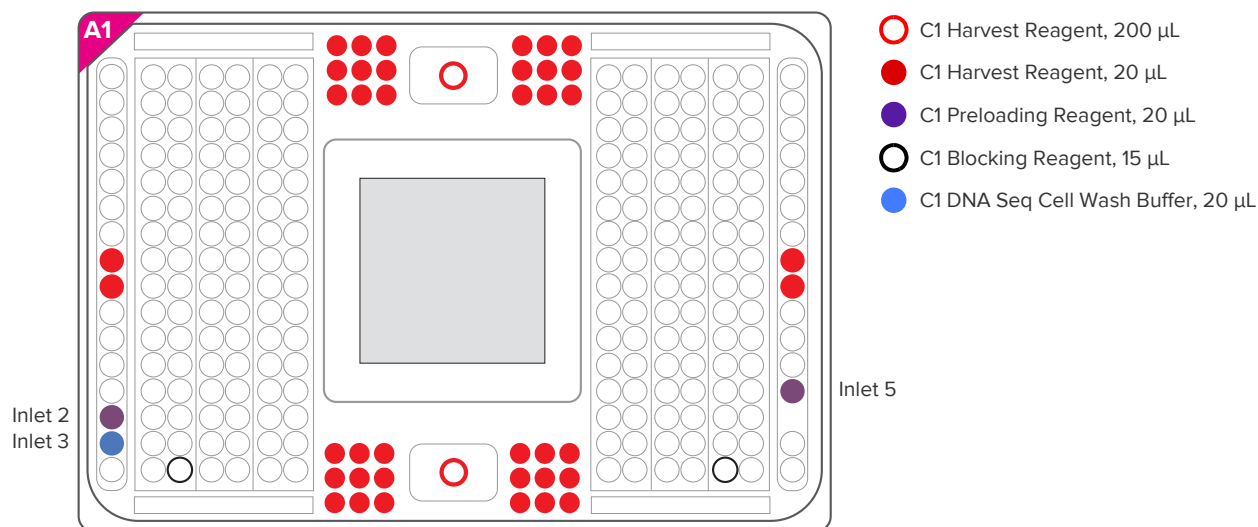

Figure 2. C1 IFC priming pipetting map.
- 1 Pipet 200 µL of C1 Harvest Reagent from 4 mL bottle into accumulators, marked with red outlined circles in Figure 2.